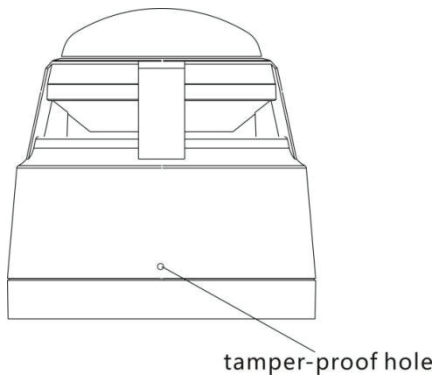

Fig. 4
2. If the sounder Beacon is required to be tamper-proof, fix it with ST2.9×5 self- tapping screws through the tamper-proof hole (see Fig. 4)on the base.